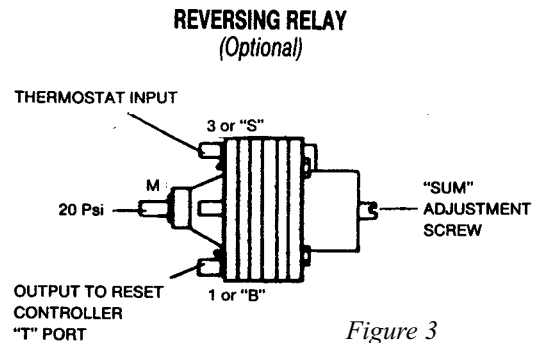

Figure 3
- Connect a 20 psi main control air supply to port "M" of the reversing relay. (Figure 3)